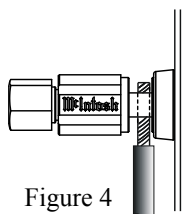

Figure 4
8. Connect the Loudspeaker hookup cables to the MC275 Negative Output Terminal (-) and Positive Output (+) Terminal identified as 4Ω (ohms), 8Ω (ohms) or 16Ω (ohms) connection to match the impedance of the Loudspeaker, being careful to observe the correct polarities. Insert the spade lug connector or prepared section of the cable end into the terminal side access hole, and tighten the terminal cap until the cable is firmly clamped into the terminals so the lugs or wire cannot slip out. **Do not over tighten.** Refer to figures 4, 5 and figure E.